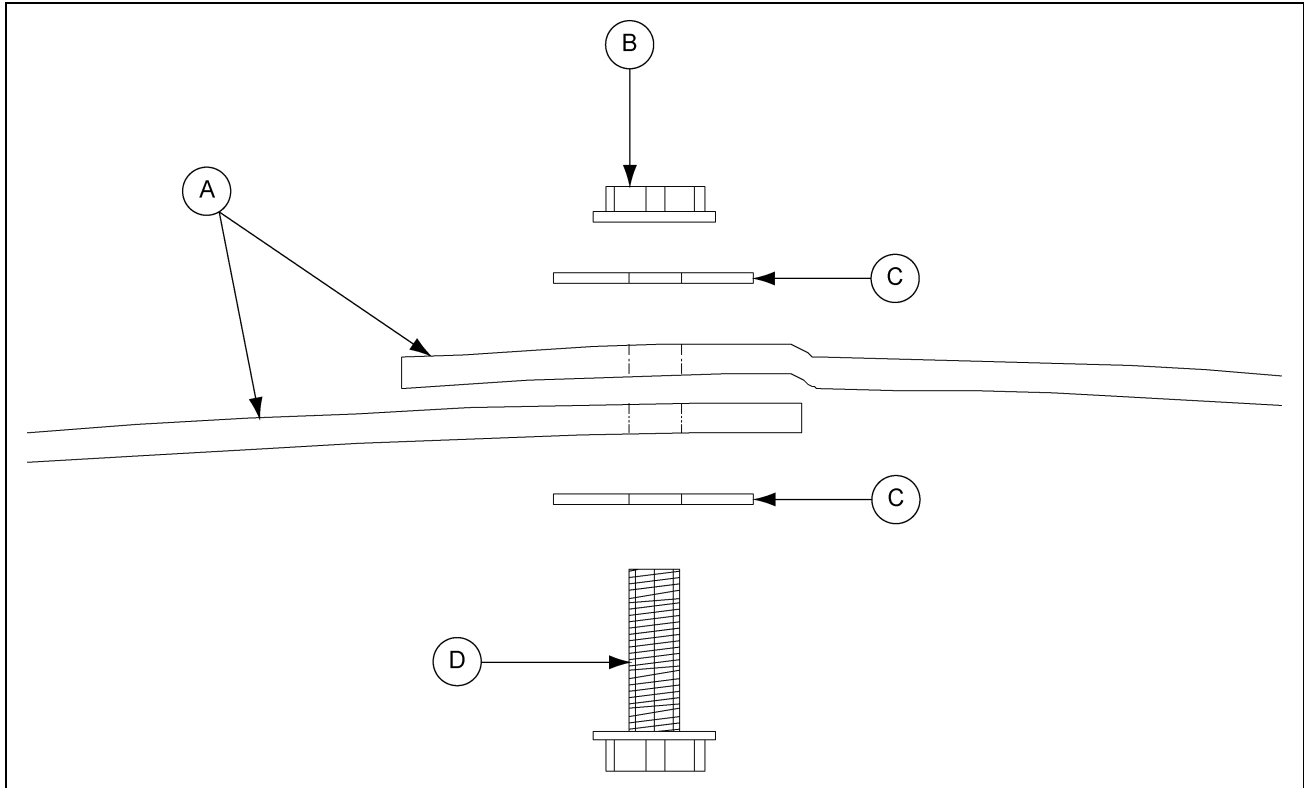

Figure 9B
1. Partially assemble the cone on the ground by using only the outermost two (2) holes per overlap (six (6) total).
2. Use the 1" bolts, fender washers and flange nuts, leaving the bolts loose. *(See Figure 9B.)*